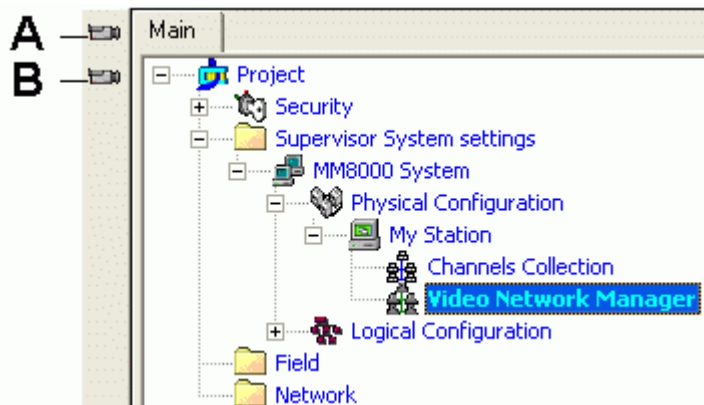

Fig 3 Video drivers
2.2.1, p.7	Minor defect corrected in the annotation references of the image illustrating how to add video drivers (Fig 3)
2. In the toolbar, click the icon corresponding to the driver you need (Fig 3):